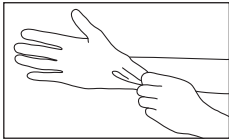

Fig. 7
- 1) Always wear protective gloves, a mask, and protective goggles for safety purposes and to minimize the risk of infection. (Fig. 7)